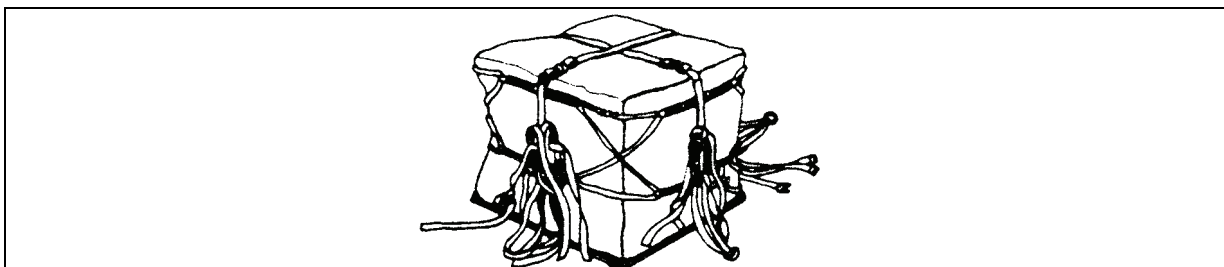
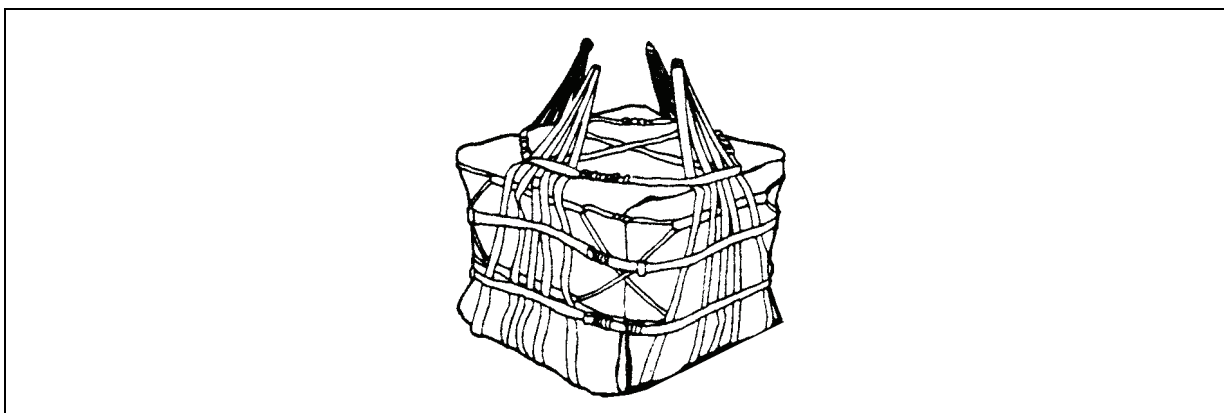

Figure 8-4. Strap Secured
Figure 8-5. Upper Lateral Straps Fastened
- **Closing the Sling Assembly.** Route the 188-inch strap over top of the load. Route the free end under the floating safety bar (smooth side) and back over the friction adapter (rough side). Tighten the strap, fold in 4 to 5 inch loops, and secure (Figure 8-4). Pull the lower lateral straps to the corners of the load. Route the free end under the floating bar and back over the friction adapter. Attempt to tighten all four lower lateral straps equally. Repeat this step using the middle lateral straps. Fasten the upper lateral straps in the same manner as in Figure 8-5. If the load is not high enough for the upper lateral straps to go around the side of the load, pull the suspension webs to their full height and fasten the upper straps diagonally across the top corner of the load. Strap fasteners should be tightened to within 4 to 5 inches of the upper lifting legs.